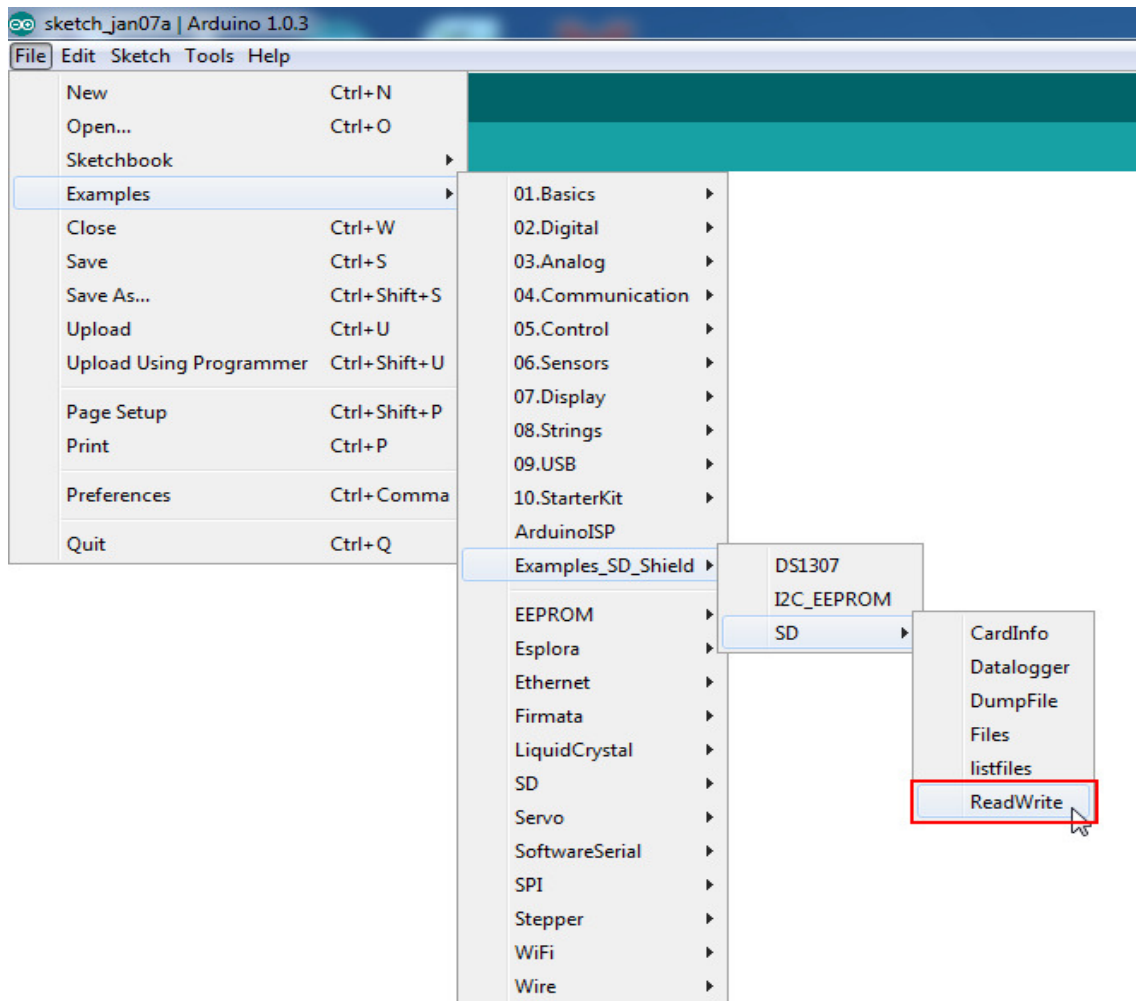

Figure 12.
6. Open an example program is “ReadWrite program” to will be tested this SD Card Shield Plus is choose “File>Examples>Examples_SD_Shield >SD>ReadWrite” as figure 12.